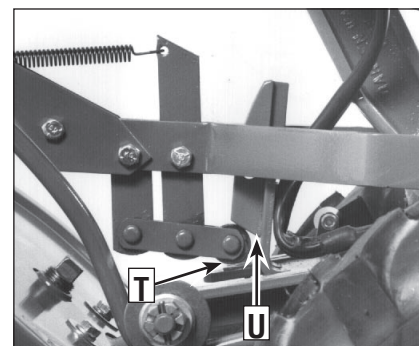
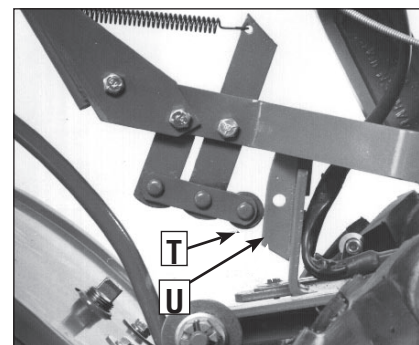

Figure 2-10 Forward position; roller (T) rests under the adjustment block (U).
Figure 2-11: Neutral position; roller (T) rests against middle area of the adjustment block (U).
7. Test the operation of the Wheels/Tines/PTO Lever. Push the lever down until it engages in the Forward position. The clutch roller (T, Figure 2-10) must rest beneath the adjustment block (U). Next, move the lever up to the Neutral position. The clutch roller (T, Figure 2-11) should rest on the face of the adjustment block (U). To test Reverse, lift and hold the lever all the way up in Reverse position, then let it go. The lever should automatically return to the Neutral position (Figure 2-11). If not, do not use the tiller. See your local authorized dealer or call the Factory Technical Service Department for instructions.